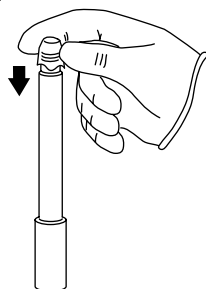

Fig. 9
9. Smooth any loose material, taking care not to touch center of membrane. See **Figure 9**.